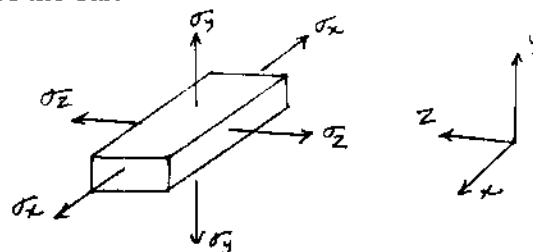

Fig.Q2(b)
- c. A vertical circular steel bar of length $3l$ fixed at both of its ends is loaded at intermediate sections by forces W and $2W$ as shown in Fig.Q2(a). Determine the end reactions if $W = 1.5$ kN. (08 Marks)
- b. A bar of rectangular cross section shown in Fig.Q2(b) is subjected to stresses σ_x , σ_y and σ_z in x, y and z directions respectively. Show that if sum of these stresses is zero, there is no change in volume of the bar.